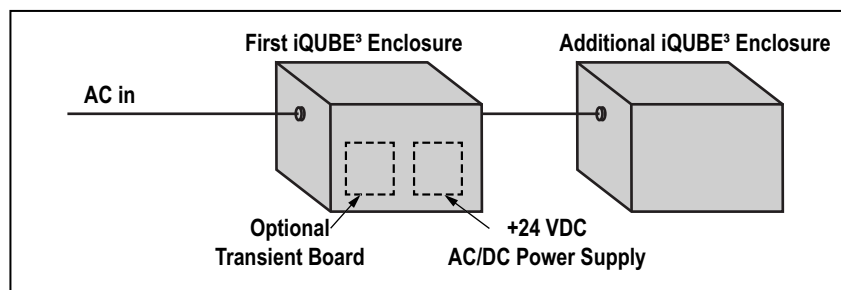

Figure 1-2. iQUBE³ with Internal 115/230 VAC Power Supply
- Internal 115/230 VAC power supply (Figure 1-2)